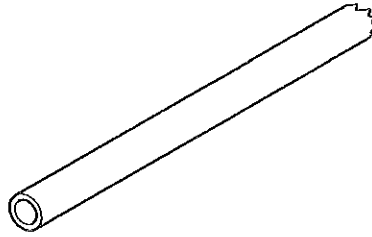

Fig. 11.6
- (f) Fig. 11.6 shows part of a length of acrylic tube from which the five tubes will be sawn to length.